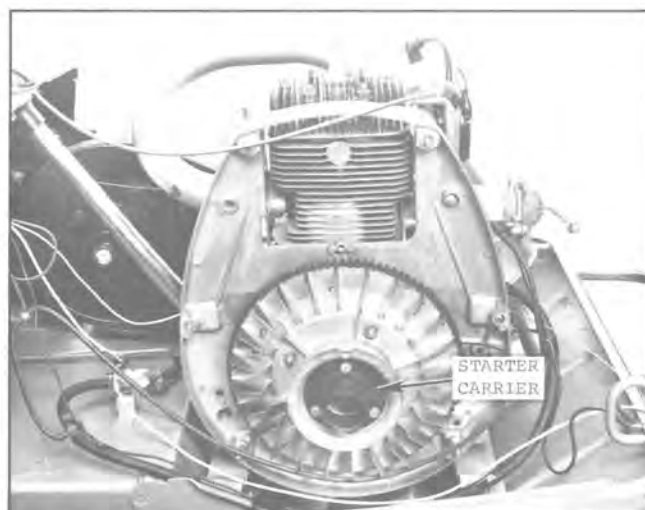

Fig. 32 — Outer Cover Removed from Engine
2. Remove the spark plug wire, starter carrier, shims and emergency starter pulley from the flywheel. See Figs. 32 and 33.